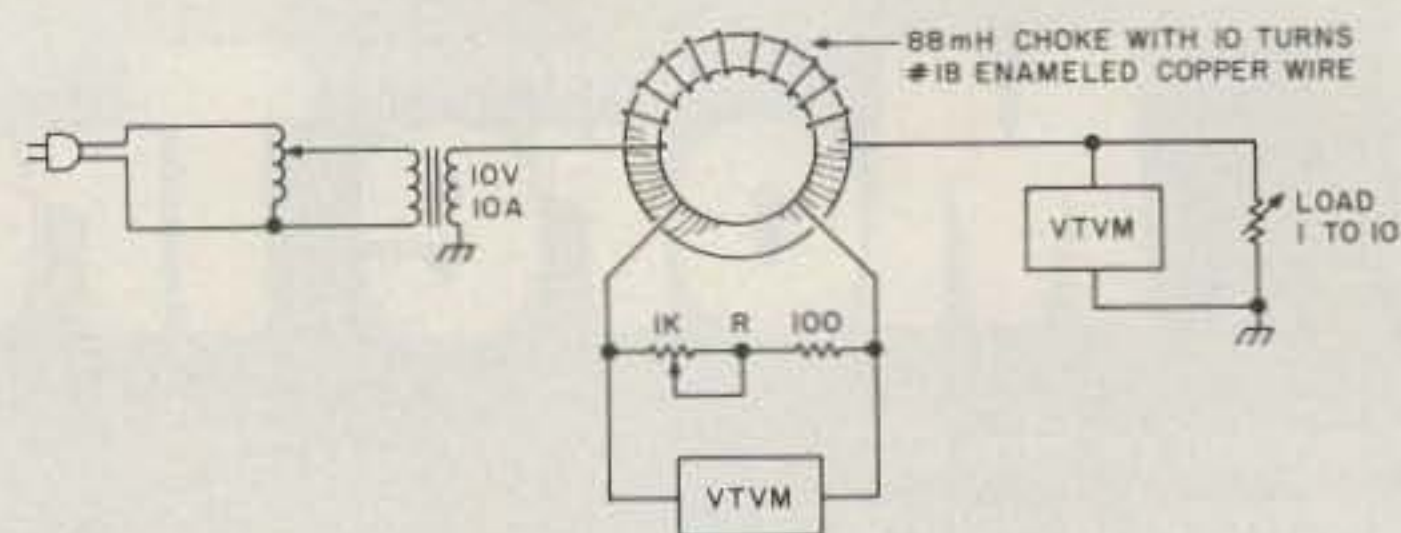

Fig. 2. Calibration test setup.
Fig. 2 shows the test setup used to calibrate the current transformer. It is not necessary to use the 120-volt, 60-Hz line to do the calibration. As shown, a low-voltage, high-current voltage transformer with an adjustable input is the quickest and safest.
- 1) Make sure that there are ten complete turns of #18 insulated wire wound as shown in Fig. 2.